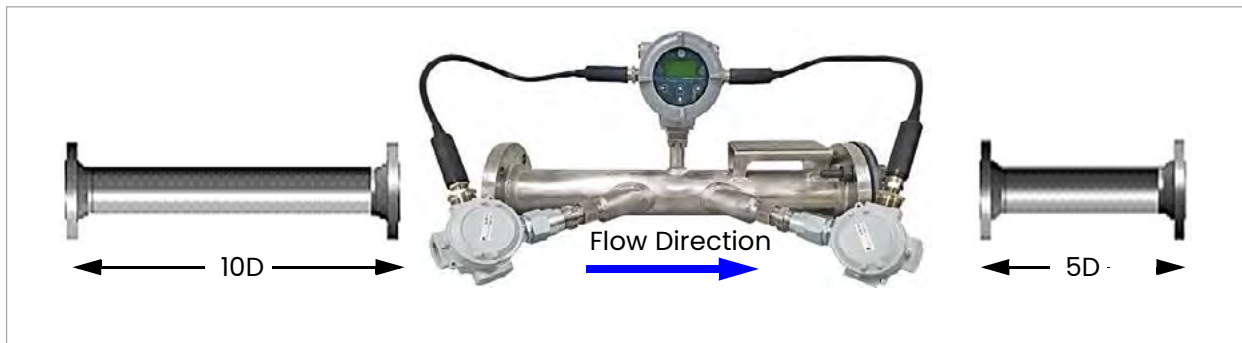

Figure 2: Minimum straight run pipe requirements
- Locate the flowcell so that there are at least 10 pipe diameters of straight, undisturbed flow upstream and 5 pipe diameters of straight, undisturbed flow downstream from the measurement point (see Figure 2 below). Undisturbed flow means avoiding sources of turbulence in the fluid (e.g., valves, flanges, expansions, elbows, etc.), avoiding swirl, and avoiding cavitation.